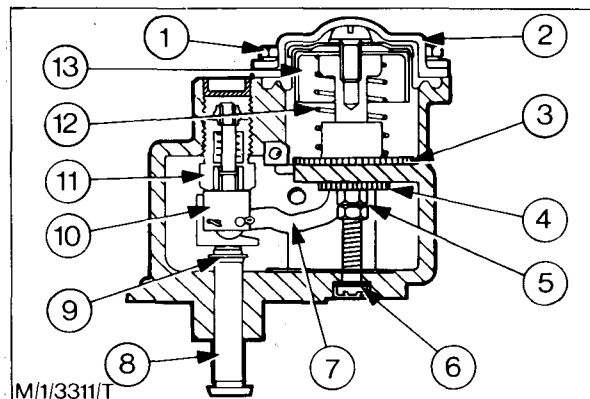

Fig. 37 - Boost Control Unit
1. Slacken the locknut securing the intermediate boost fuel adjusting wheel and unscrew the cross head screw from the bottom of the unit. Remove the adjusting wheel and locknut as the screw is removed. Discard the rubber washer (Fig. 37).